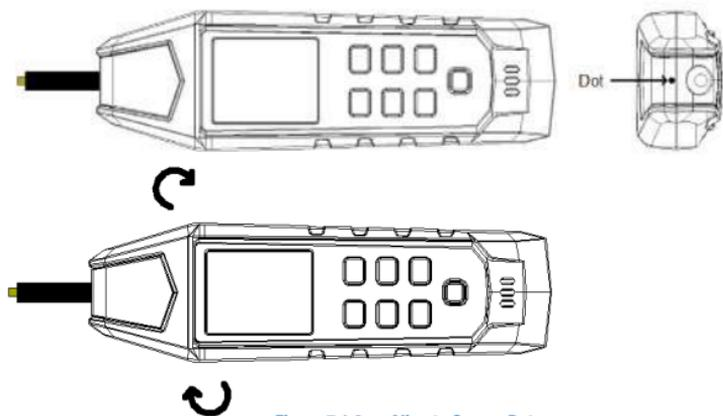

Figure 7.1.3a – Align to Sensor Dot
3. For best results when tracking an energized conductor, align the dot on the top of the sensor to the direction of the conductor, as shown in **Figure 7.1.3a**. If not aligned properly, signals may not be detected, or the code may be wrong. To check the direction of the cable, rotate the receiver 90°, as shown in **Figures 7.1.3b** and **7.1.3c**. The signal strength reaches its maximum when the cable is aligned with the dot on top of the unit. According to the differences of detected signals, the receiver automatically detects if the cable is energized (“”), which will be displayed on the LCD. No need to perform manual setting.